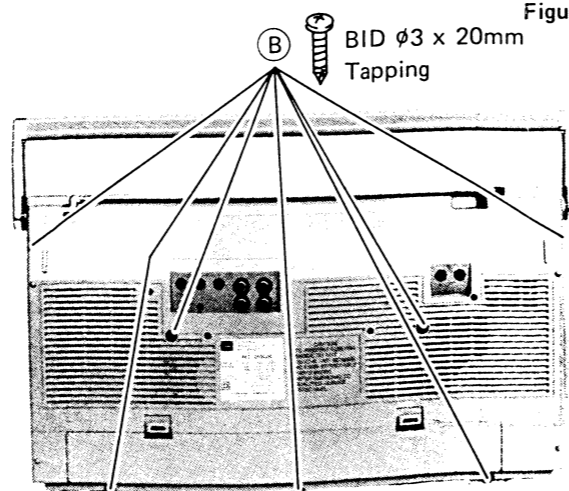

Figure 4.
2. Remove 7 screws ②. Figure 4.